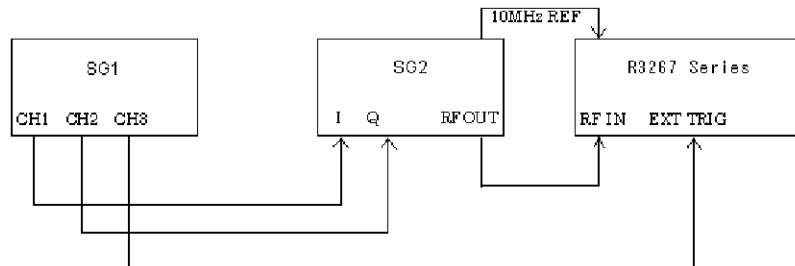

Figure 6-6 Setup of QPSK Measurement (RF Input)
1. Connect equipment as shown in Figure 6-6.